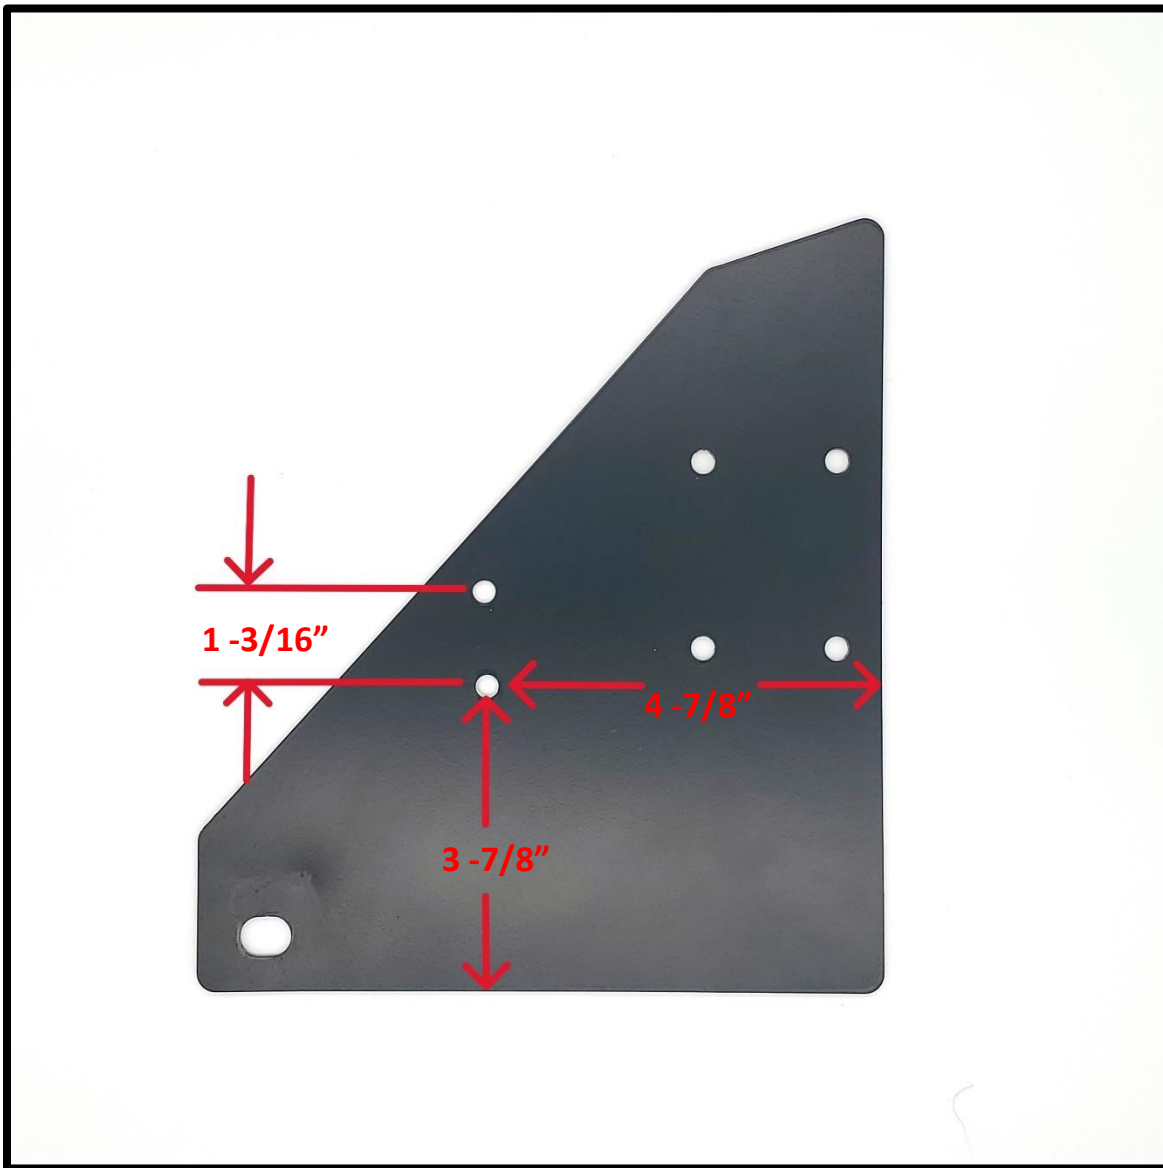

Figure 1
- 1-A) Inspect the triangular shaped half of the ARB mounting brackets for two (2) 1/4" holes as shown below. If not present, you will have to drill two (2) 1/4" holes at the locations dimensioned in **Figure 1**. If holes are already present, proceed to **Step 1-B**.